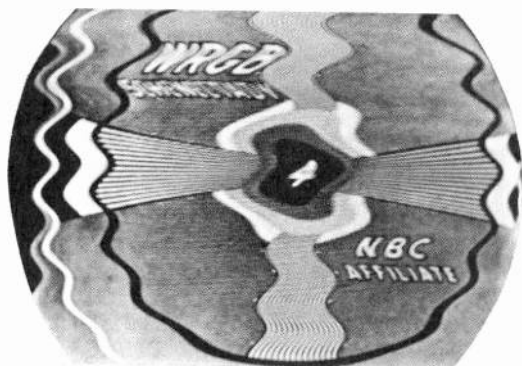

Fig. 1-P. *Pie-crust effect in pix.*
**SYMPTOMS:** Test pattern evidences jagged edges similar to pie-crust. See Fig. 1-P. Rotating the horizontal-hold control will vary amount of pie-crust in the pix.